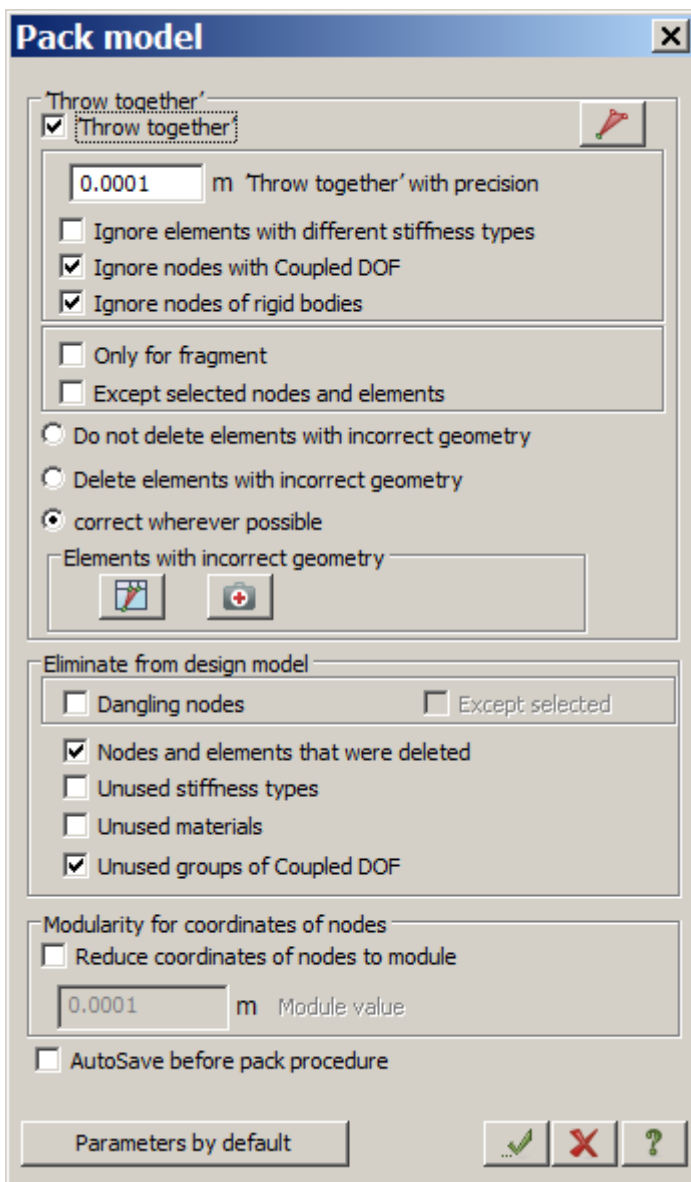

Figure 6.4 Pack model dialog box
- ⇒ In the **Pack model** dialog box (see Fig.6.4), click **Apply** . It is necessary to pack the model in order to 'throw together' coincident nodes and elements and to eliminate (that is, to remove completely) deleted nodes and elements from design model.